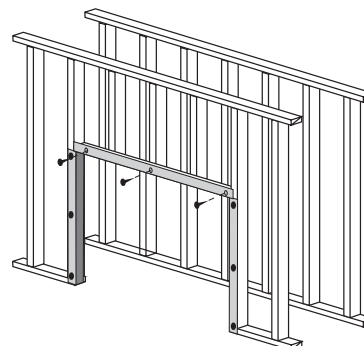

Figure 8b. Combustible Framing Heat Shield, completed.
Step 3. Nail or screw the top shield in place flush with framing, as shown in figure 8b.